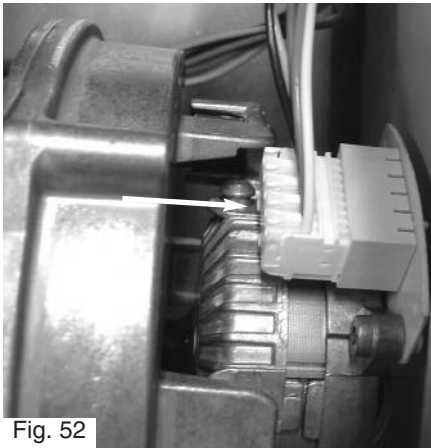

Fig. 52
2. Remove the silencer (Fig. 52);
5. Unplug the gas valve and fan connectors (Figs. 52 and 53);